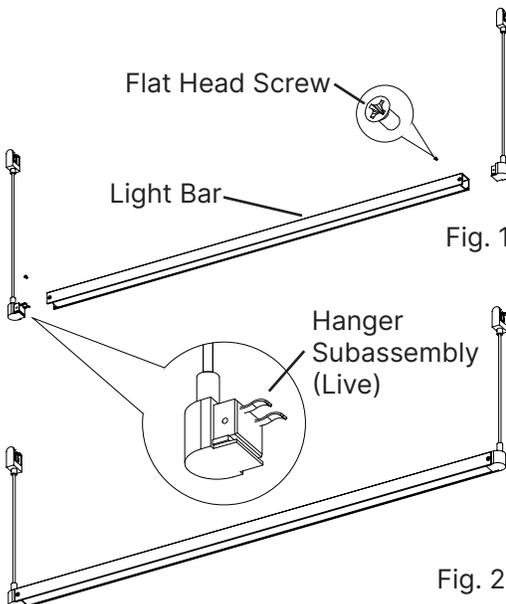

Fig. 2
2. Insert **Hanger Subassembly** into **Light Bar** and secure with **Flat Head Screws** (Fig 2).